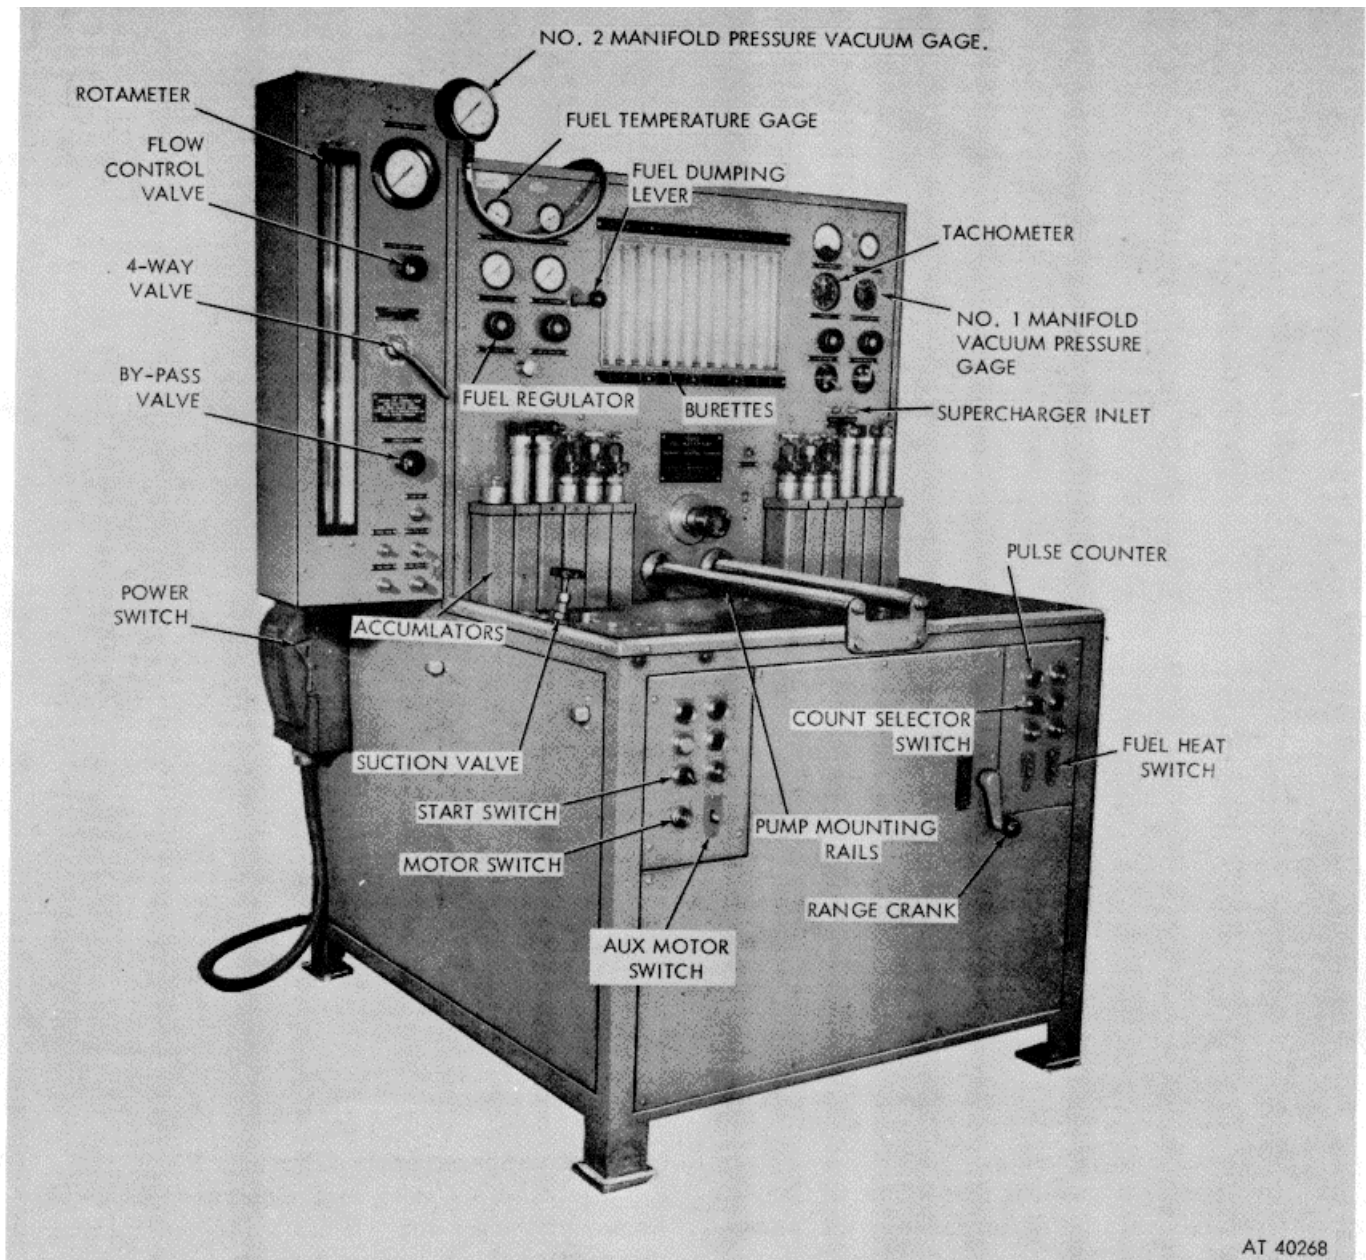

Figure 3-80. Fuel pump test stand.
(2) Place ring and adapter assembly on stand mounting rails and secure to rails with clamp bar (fig. 3-80). Finger tighten clamp bar only.
If during operation of the stand oil is sucked into vacuum gage no. 1 (fig. 3-80) it will be necessary to use a supplementary vacuum gage (vacuum gage no. 2, fig. 3-80). Disconnect hose from stand supercharger inlet connector (fig. 3-83) to pump inlet adapter. Connect flexible hose from supplementary vacuum gage no. 2 to pump inlet adapter (5, fig. 3-79).
(14) Turn on fuel heat switch (fig. 3-80), observe that temperature on "FUEL TEMPERATURE" gage is between 80 to 100 degrees for testing.
(1) Set stand motor switch (fig. 3-80) to "FORWARD." This corresponds to code designation on pump name plate. "L" for left-hand (fig. 3-84), as viewed from rear of pump.
(2) Open stand "BYPASS VALVE," "SUCTION VALVE" and "FLOW CONTROL VALVE." Back seat all other valves to prevent leakage (fig. 3-80).
(5) Set stand 4-way valve to "ROTAMETER" position (fig. 3-80).
(6) Set stand power switch to "ON" position.
(7) Turn range crank to "LOW RANGE" (fig. 3-80).
(8) Start stand and pump operation by depressing start switch. Depress and release switch until pump operation is between 400-450 rpm as observed on stand "TACHOMETER" (fig. 3-80).
(9) Turn on "AUX MOTOR" switch for one minute, to eliminate any air entrapped in test stand (fig. 3-80).
(10) Adjust "FUEL REGULATOR" to a maximum of 20 psi as observed on "FUEL PRESSURE" gage (fig. 3-80).
(11) Shut-off "AUX MOTOR" switch.
*f. Fuel Pump Damper Assembly.* Assemble damper assembly in reverse order of disassembly (para 3-102.a. (2)).
*g. Fuel Shut-Off Solenoid Valve Assembly.* Assemble solenoid valve in reverse order of disassembly (para. 3-102.a. (1)). Use new preformed packing, O-Ring, and gaskets for assembly.
*a. General.* PT type G fuel pump is tested and calibrated on the fuel pump test stand (fig. 3-80).